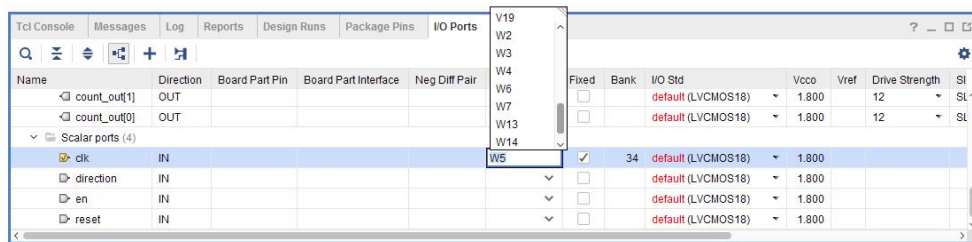

Figure 34
4. Locate and select the **clk** input signal under **Scalar Ports**, then attribute to this signal the pin location **W5** (GCLK signal on the Basys-3 board - see the Basys-3 FPGA Board Reference Manual to know the pin assignment in the board) by writing **W5** (or selecting it from the list) in the **Package Pin** column (Figure 34), as **I/O Std** → **LVCMOS33** and as **Vcco** → **3.300** (this last value should change automatically after changing the **I/O Std** value)